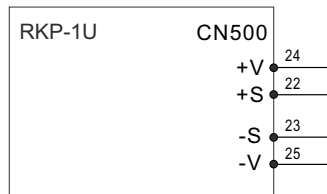

Figure 3-6 Connection for using the "Local Sense" function
- ⊙ Notice: It is required to use the "Remote Sense" function to let the PSU work properly. If not, the "Local Sense" is still required that "+S" should be shorted to "+V" and "-S" to "-V" as Figure 3-6. Or the output voltage will be too high, which may trigger the over voltage protection.